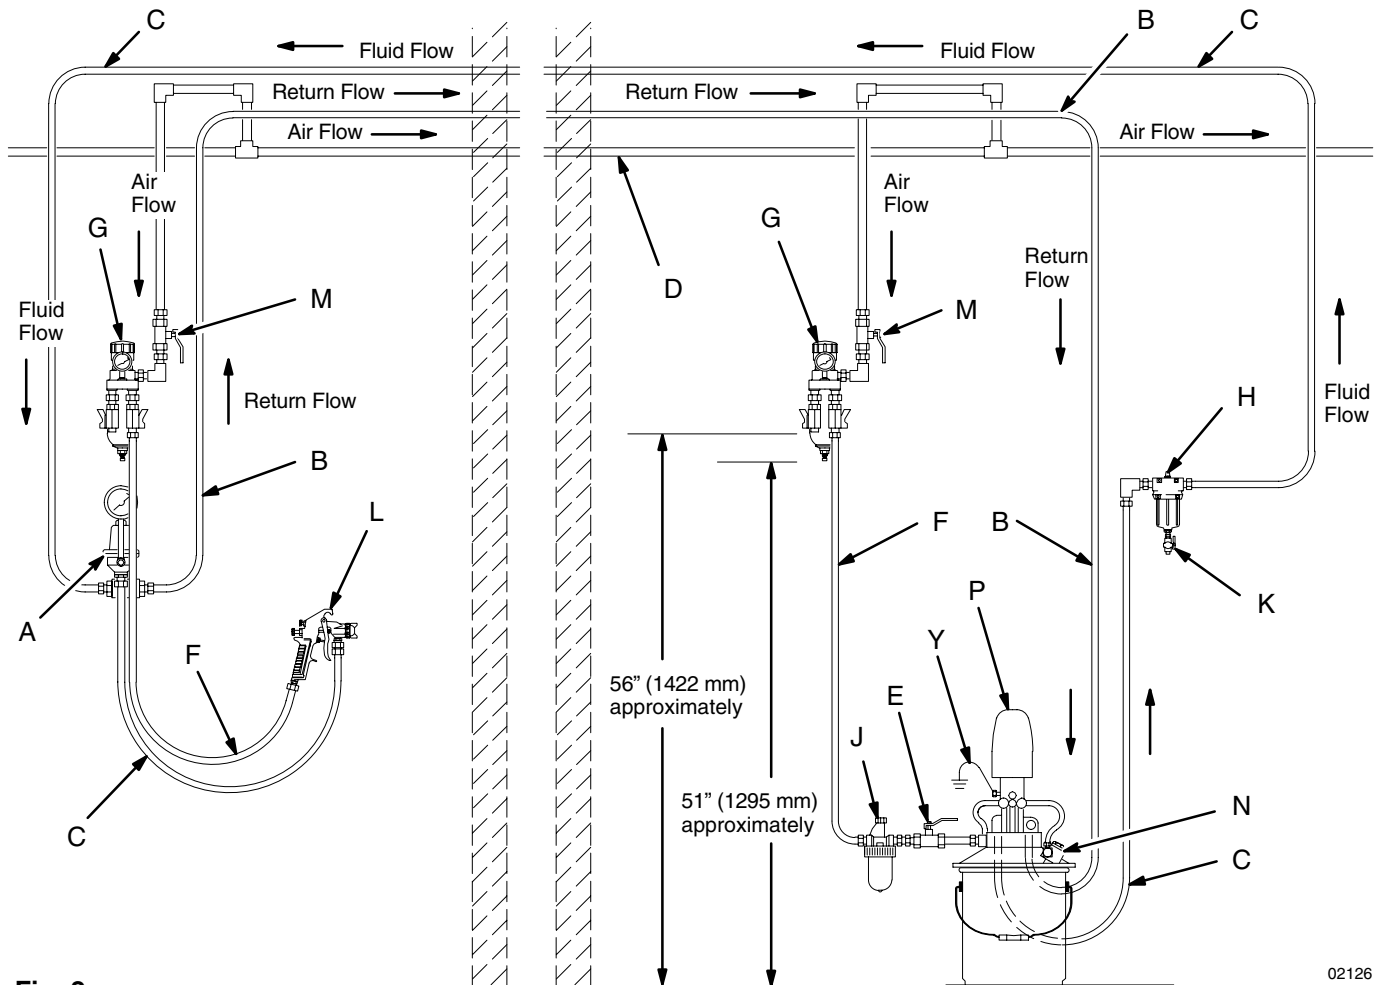

Fig. 2
Refer to Fig. 2. Bring a compressed air supply line (D) from the air compressor to the pump location. Be sure all air hoses (F) are properly sized and pressure-rated for your system. Use only electrically conductive hoses.
Fig. 2 is only a guide for selecting and installing system components and accessories. Contact your Graco distributor for assistance in designing a system to suit your particular needs.
1. Install a fluid pressure regulator (A) at each spray booth. See Fig. 2.
2. Install an air filter/regulator (G) and an air bleed valve (M) at each spray booth.
3. Connect an air supply hose (F) between the air filter/regulator (G) and the air inlet of the gun (L).
4. Connect a fluid return line (B) between the fluid regulator (A) and the return port of the pump.
5. Connect a fluid supply line (C) between the fluid outlet of the pump and the fluid regulator (A).
6. Connect a fluid hose (C) between the fluid regulator and the fluid inlet of the spray gun.
1. Install a fluid pressure regulator (A) at the spray booth. See Fig. 2.
2. Install an air filter/regulator (G) and an air bleed valve (M) at the spray booth.
3. Install a fluid pressure regulator (A) at each spray booth. See Fig. 2.
4. Connect two fluid hoses to the manifold outlets (V). Connect the other end of the hoses to the fluid regulators (A).
5. Connect a fluid hose (C) between the fluid regulator (A) and the fluid inlet of the spray gun (L).
6. Install an air filter/regulator (G) and an air bleed valve (M) at each spray booth.
7. Connect an air supply hose (F) between the air filter/regulator (G) and the air inlet of the gun (L).
8. Connect an air supply hose to the air inlet of the pump (R).
1. See Figs. 2 and 5. Remove the spray nozzle from the gun. See the gun instruction manual.
3. Close the pump air filter/regulator (G).
4. Close the fluid drain valve (K).
7. Open the bleed-type air valves (E, M). Open the air filter/regulator (G).
9. Slowly open the pump air valve (4) until the pump starts. Use the air valve to control pump speed and fluid pressure. Always use the lowest pressure necessary to get the desired results. Higher pressures cause premature nozzle and pump wear.